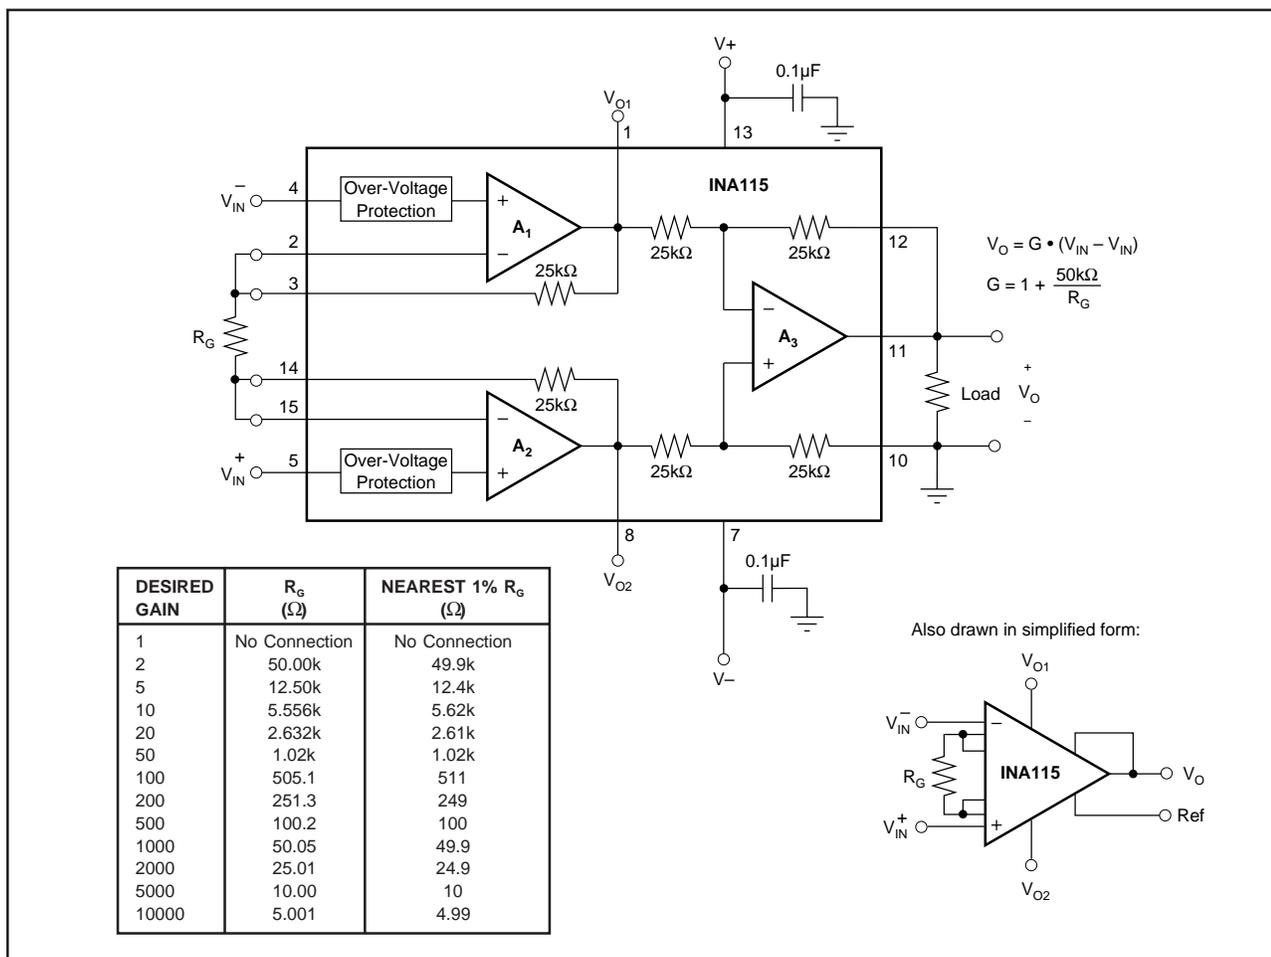

FIGURE 1. Basic Connections.
Figure 1 shows the basic connections required for operation of the INA115. Applications with noisy or high impedance power supplies may require decoupling capacitors close to the device pins as shown.
Commonly used gains and resistor values are shown in Figure 1.
The stability and temperature drift of the external gain setting resistor, RG, also affects gain. RG's contribution to gain error and drift can be directly inferred from the gain equation (1). Low resistor values required for high gain can make wiring resistance important. The “force and sense” type connections illustrated in Figure 1 help reduce the effect of interconnection resistance.